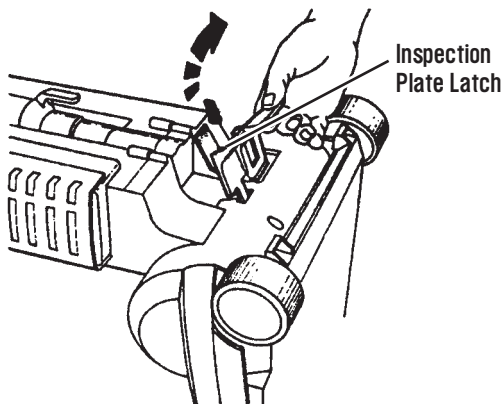

Figure 18
3. Turn the Vacuum Cleaner to rest the Base on its front. (See Figure 18.) Find the Inspection Plate located at the back of the Vacuum Cleaner.
4. Turn the Latch on the Inspection Plate clockwise until it unlocks. (See Figure 18.)